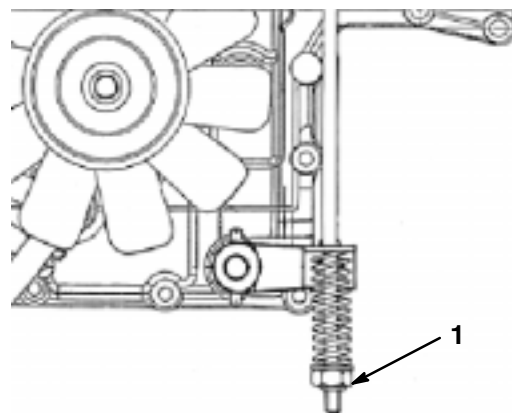

Figure 19
The brake is on the right side of the rear axle, inside the rear tire (Fig. 19). If the tractor requires more than one meter to stop at high speed in the highest gear, then the brake must be adjusted.
3. To adjust the brake, turn the brake adjusting nut clockwise until you can not push the tractor (Fig. 19).